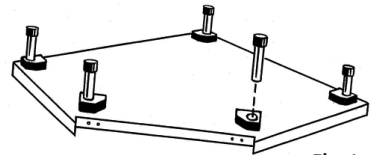

Fig 1
1. Lay the floor panel upside down and push the adjustable plinth legs into the plastic cups until they home. (Fig 1)